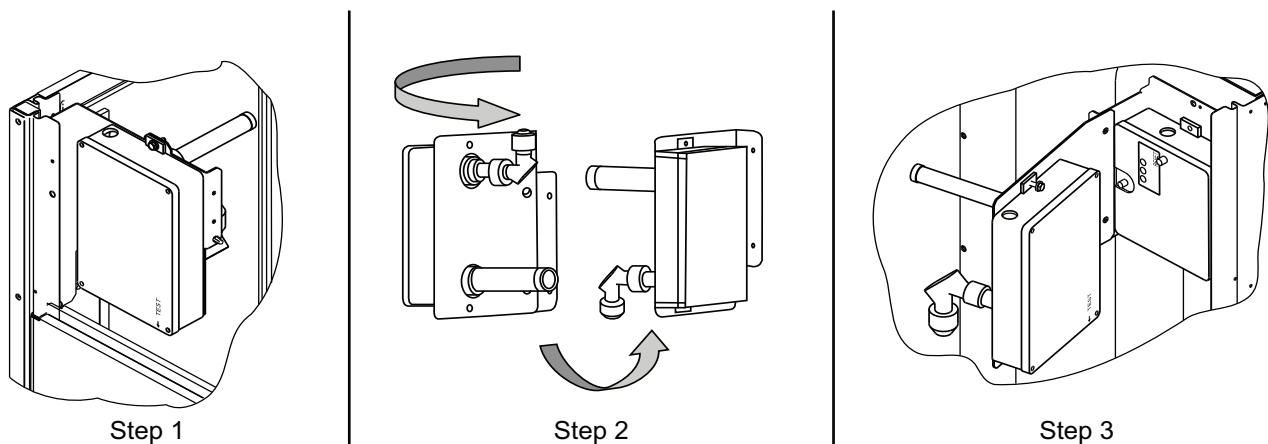

Fig. 67 — Completing Installation of Return Air Smoke Sensor
1. Unscrew the 2 screws holding the return-air smoke detector assembly. See Fig. 67, Step 1. Save the screws.
2. Turn the assembly 90 degrees and then rotate end to end. Make sure that the elbow fitting is pointing down. See Fig. 67, Step 2.
3. Screw the sensor and detector plate into its operating position using screws from Step 1. See Fig. 67, Step 3.